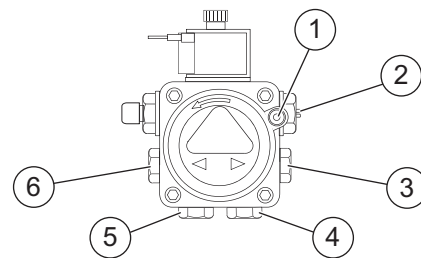
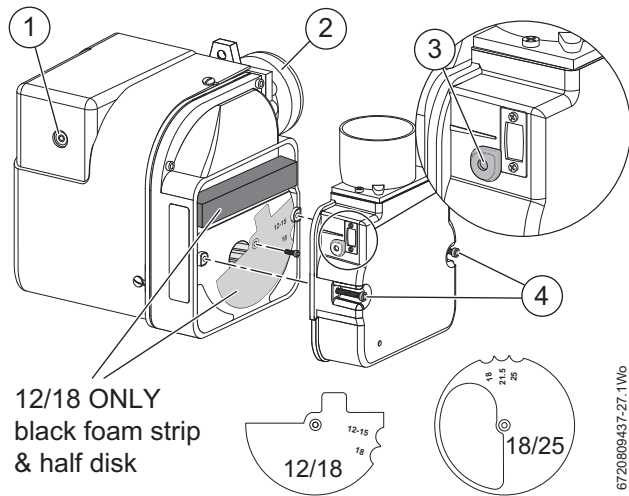

Fig. 47 Oil pump ports/connections
Fig. 48
- ▶ Adjust the air shutter [3] figure 48 and pump pressure [2] figure 47 as shown in the table 8 on page 31. The burner should ignite following a pre-ignition period of approximately 15 seconds.